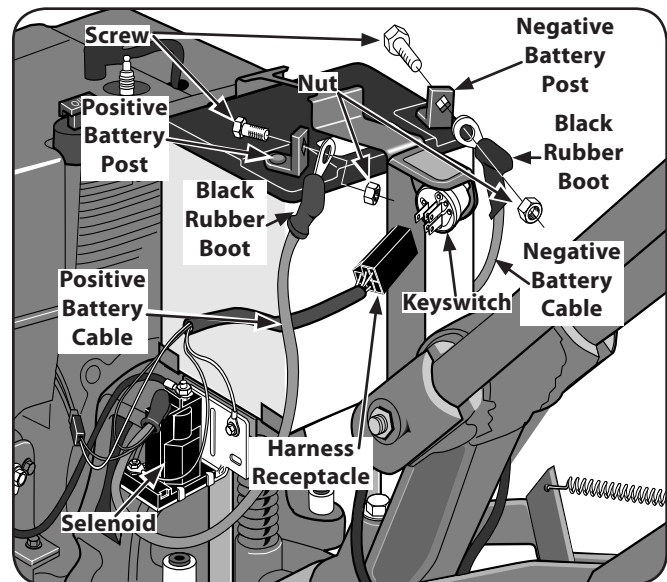

Figure 3-14
1. Before installing the battery and its hold-down clamp, insert the plastic wire harness receptacle into the prongs of the keyswitch located on the hold-down clamp. See Figure 3-14.
2. Remove the ignition keys from the keyswitch and store them safely away. Do not insert the key into the keyswitch until you complete this section and read the Operation section. See Figure 3-14.
3. Use a $\frac{5}{8}$ " long screw and $\frac{1}{4}$ -20 hex nut to connect the positive (+) battery cable to the positive (+) battery post. Make sure that this is the cable on the left side, with one end attached to the solenoid. See Figure 3-14.
4. Slide the black rubber boot completely over the battery post and cable connector. See Figure 3-14.
5. Use a $\frac{5}{8}$ " long screw and $\frac{1}{4}$ -20 hex nut to connect the negative (-) battery cable to the negative (-) battery post and secure with screw and nut. See Figure 3-14.
6. Slide the black rubber boot completely over the battery post and cable connector. See Figure 3-14.